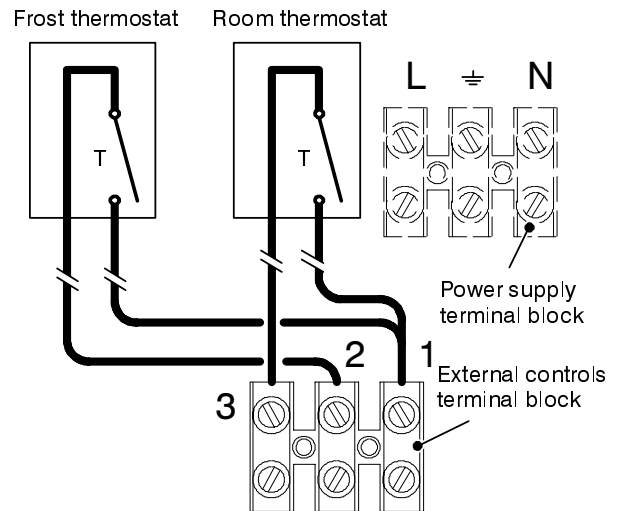

Fig. 6.18
- 10 Connect the frost thermostat between terminals 1 and 2 as shown in Fig. 6.18. **Do not connect live wires to terminals to which the room thermostat must be connected.**